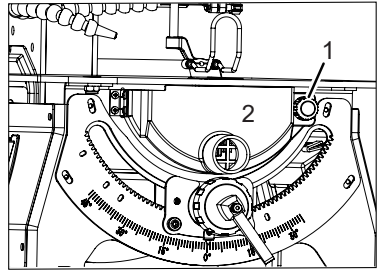

FIGURE 8
1. Loosen the locking knob (Fig.8, 1) first and swing open the Dust Hood (2).